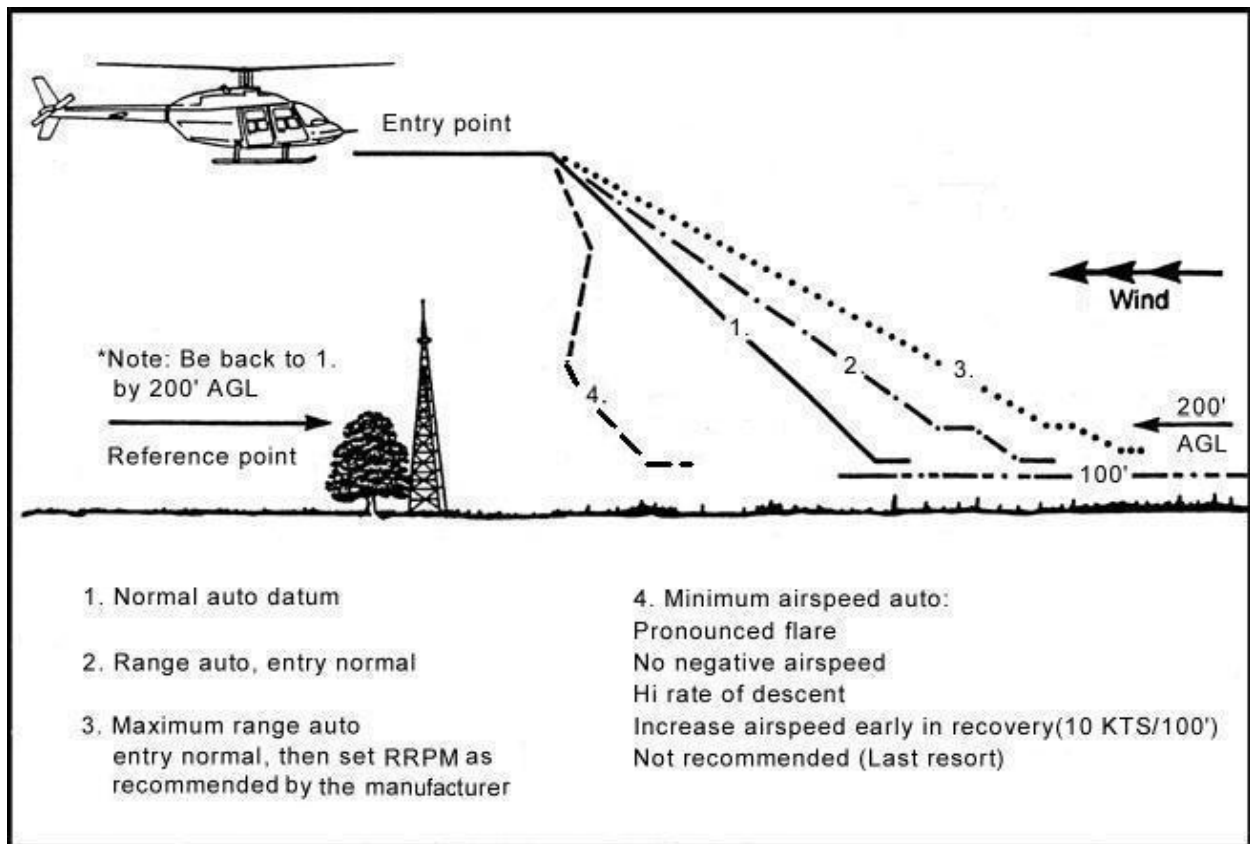

Figure 18-2: Range variations
Many helicopter manufacturers specify a maximum autorotation range speed in their flight manuals (Fig 18-2). It is this speed that you should reference when performing this exercise. There is certainly no purpose in exceeding that speed, as after that point, no increased range will result. Indeed rate of descent will increase range will decrease.
By reducing RRPM using collective the range can be further extended, but the rotor tachometer has to be closely monitored (Fig 18-2). In this instance, it is even more important to return to normal autorotation limits as soon as the landing spot is assured.
1. Reducing the airspeed (Fig 18-2):